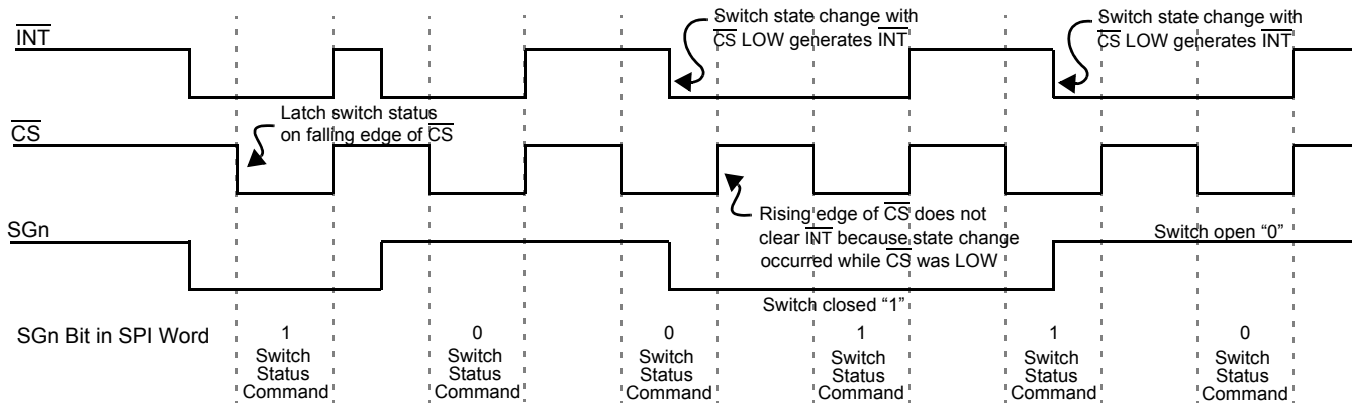

Figure 6. Normal Mode Interrupt Operation
2. \overline{INT} pin is reset to logic [1], except when additional switch changes occur during \overline{CS} LOW. (See Figure 6 on page 9.)
Figure 6, page 9, is a graphical description of the device operation in Normal mode. Switch states are latched into the input register on the falling edge of CS. The INT to the MCU is cleared on the rising edge of CS. However, INT will not clear on rising edge of CS if a switch has closed during SPI communication (CS LOW). This prevents switch states from being missed by the MCU.